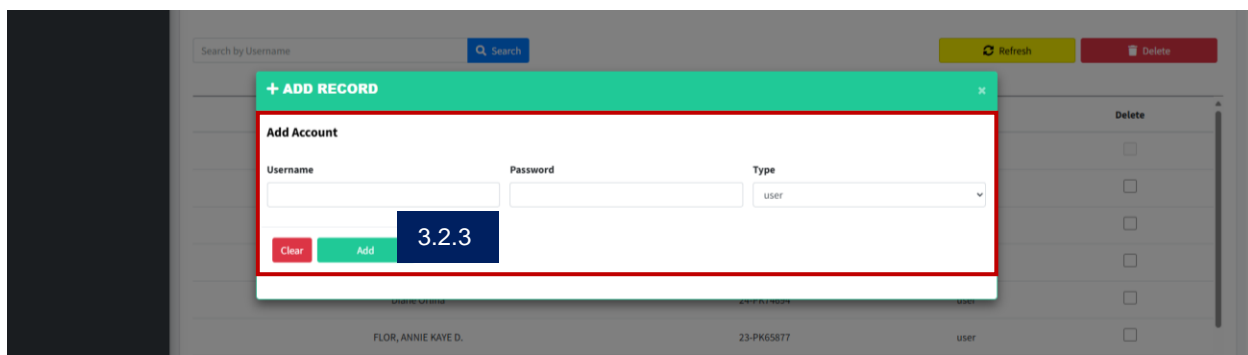

Figure 7. Admin – Add Account Form
3.2.3 Fill-out the needed details, then click on the Add button. *See Figure 7*